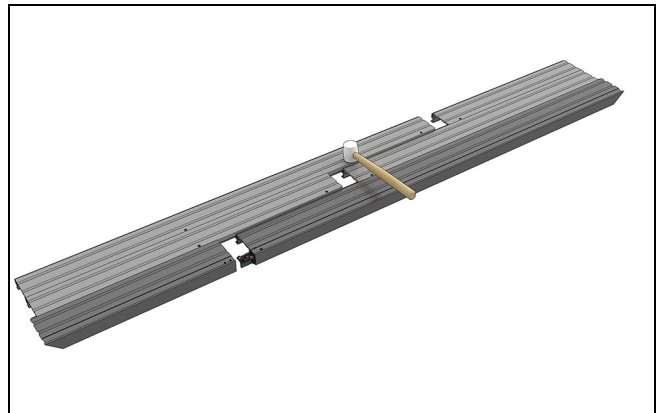

Figure 31
3. Press the splice sections together and seat with a rubber mallet. See Figure 31.